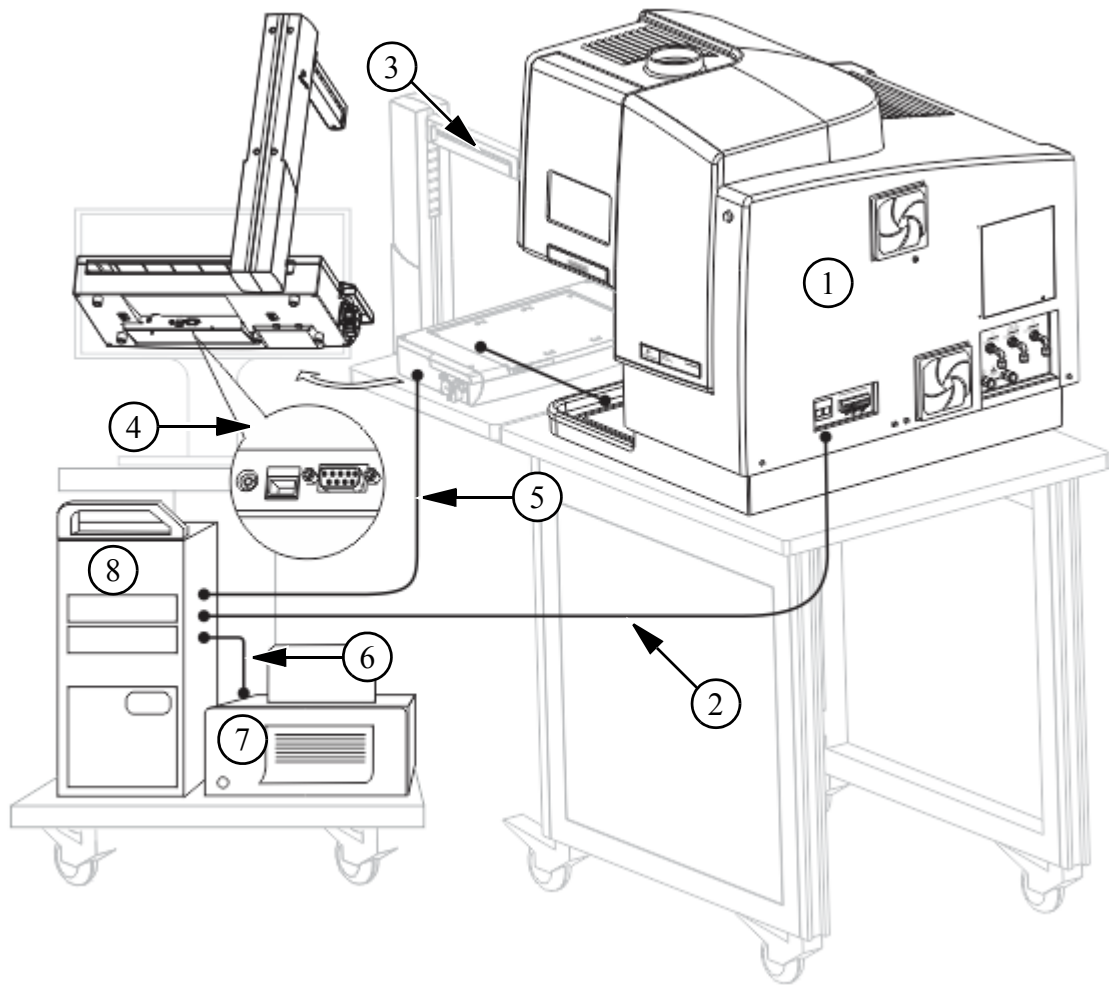

Figure 4-33 Electrical connection for the S10 autosampler to the Avio 200
3. Connect the RS232/serial communication cable (Part No. 09290259) provided, between the Com 1 port on the underside of the autosampler (as shown in *Figure 4-33* on *page 144*) and one of the Com ports on the PC.